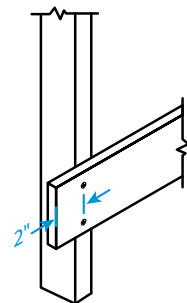

Figure 2
- Fasteners must be installed no more than 2" from the end of each board (See Figure 2 below).